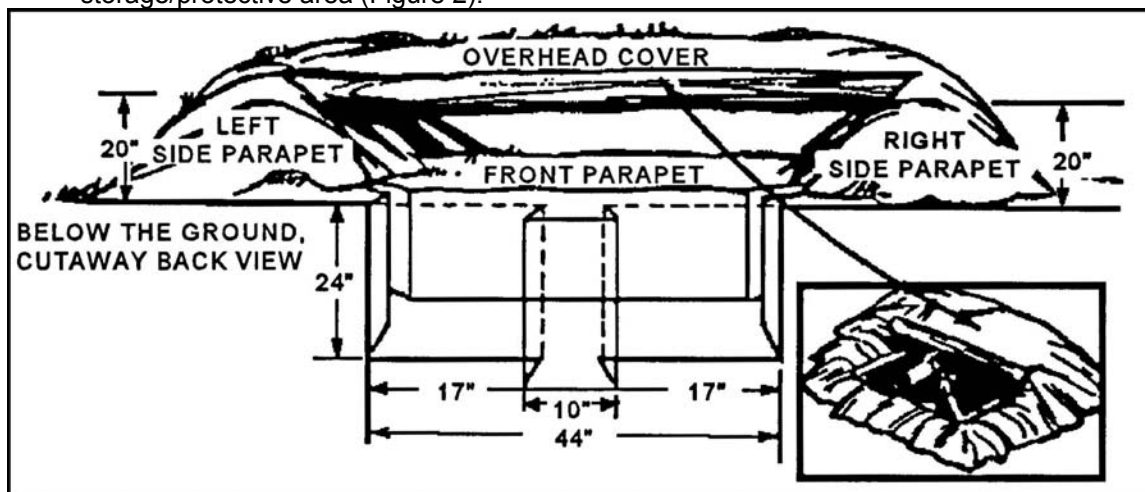

Figure 2. Storage protective area.
- e. Dig to the flank (90 degrees to the primary direction of fire) and use the strongest material available for the roof. Put plastic or canvas down before throwing the dirt on the roof to help keep the ceiling from leaking. If you use sandbags, cover them with canvas or plastic. Wet sandbags are heavy and may cave in. Place at least 20 inches of dirt on top of the storage/protective area (Figure 2).